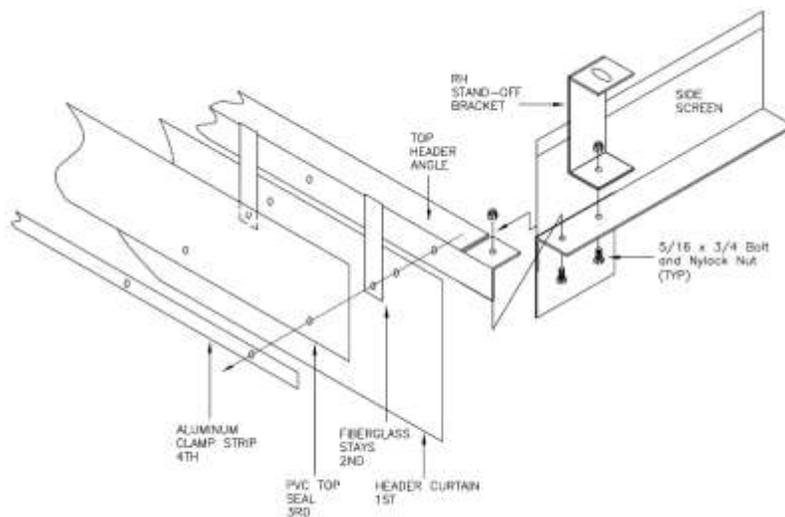

FIGURE 3
5. Next install the top angle to the back of the track assemblies with the horizontal leg of the angle facing the building interior and against the tops of the track assemblies. Use the 1/4-20 x 1" machine screws provided to secure the angle to the track assemblies. Install the header curtain and top seal by reaching around under the top header angle and putting the 1/4 x 20 x 1 bolts in all the holes. Lay the header curtain on the floor with the logo down, install on the 1/4 x 20 x 1 bolts then the fiberglass stays, then the PVC top seal, then the 1 inch aluminum clamp strip and fasten all these components together using the nylock nuts. (See Fig. 3)